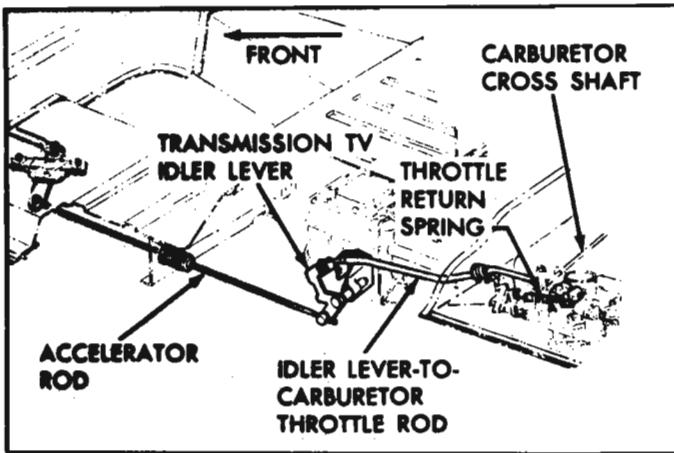

Fig. 6-4—Accelerator Control Rods
- 12. Disconnect accelerator control rods at the transmission idler lever (fig. 6-4). Push the lever-to-carburetor rod up into the engine compartment.